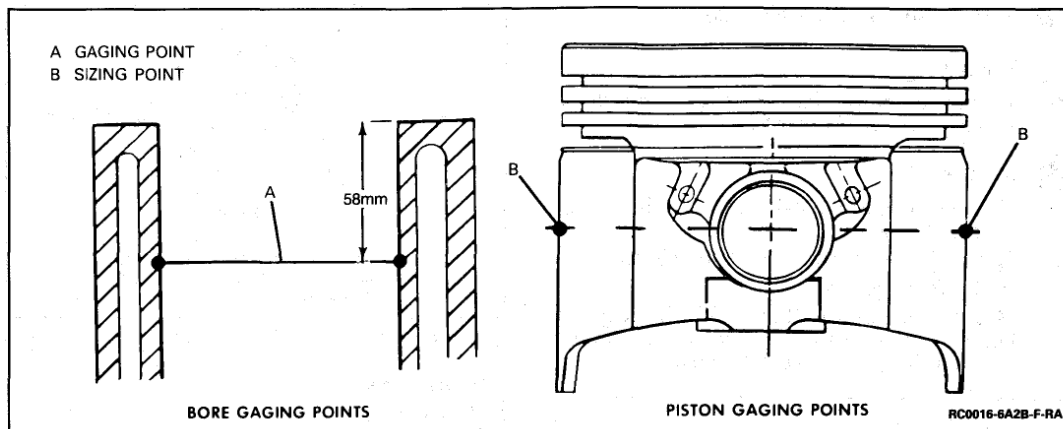

Figure 33 Cylinder Bore and Piston Gaging Points
2. Cylinder bore (Figure 33), with a telescoping gage. If worn beyond specifications, rebore and hone to size.